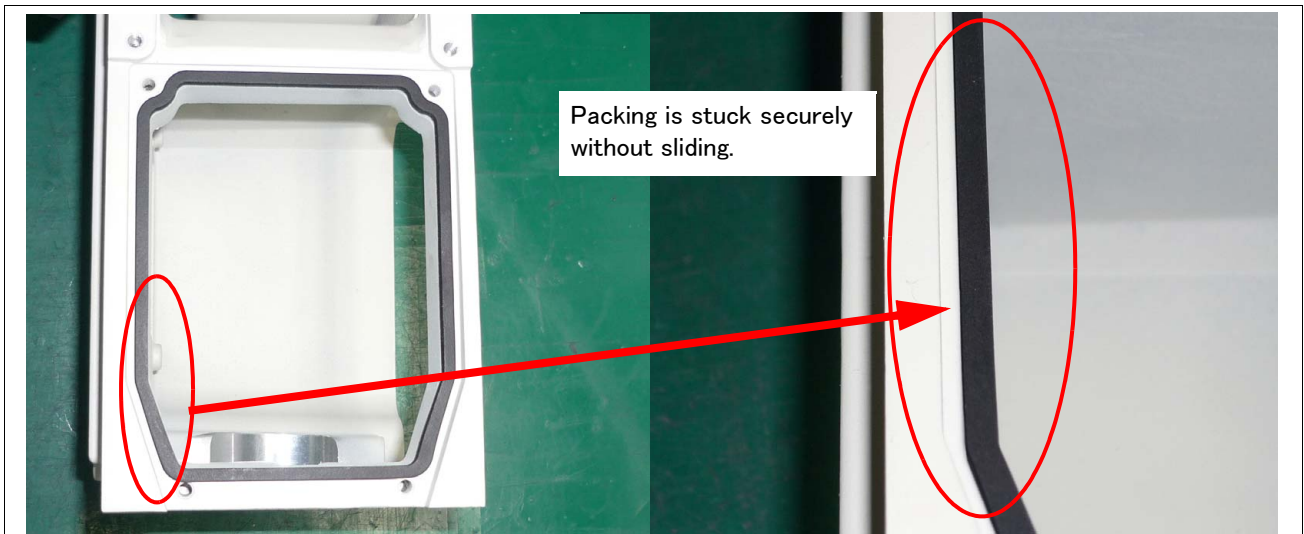
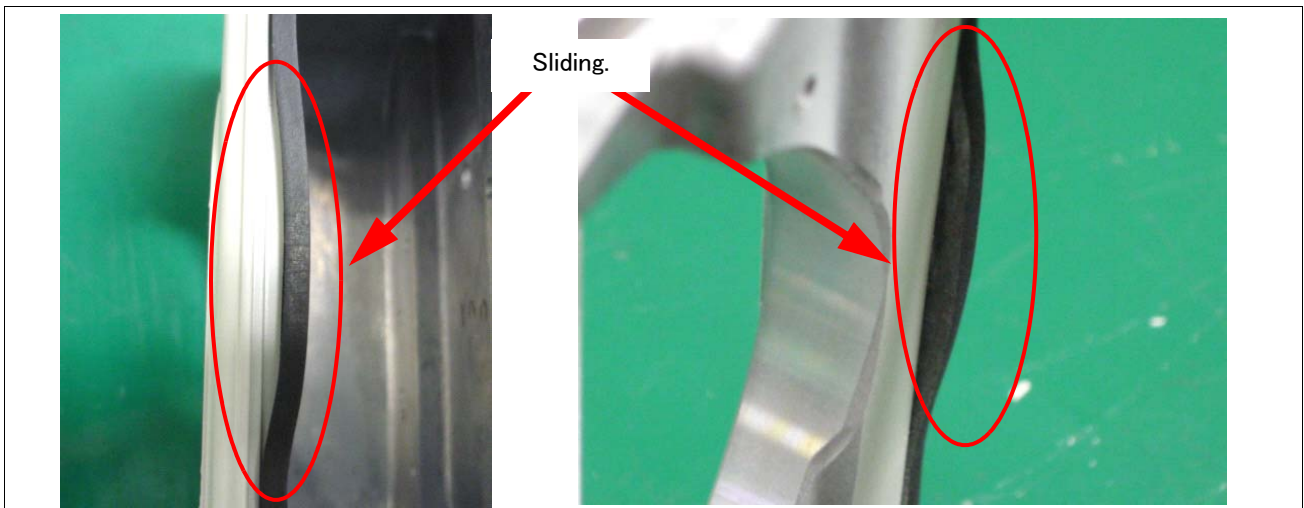

Fig.5-5 : Example of sticking packing (good example)
Fig.5-6 : Example of sticking packing (bad example)
- 2) The sticking surface of packing is double-coated adhesive tape. Referring to "Fig.5-5 : Example of sticking packing (good example)" and "Fig.5-7 : Sticking the cord-like packing", and stick the packing in line with form. Be careful for the packing not to slide. The example of unsuitable packing slid is shown in "Fig.5-6 : Example of sticking packing (bad example)".